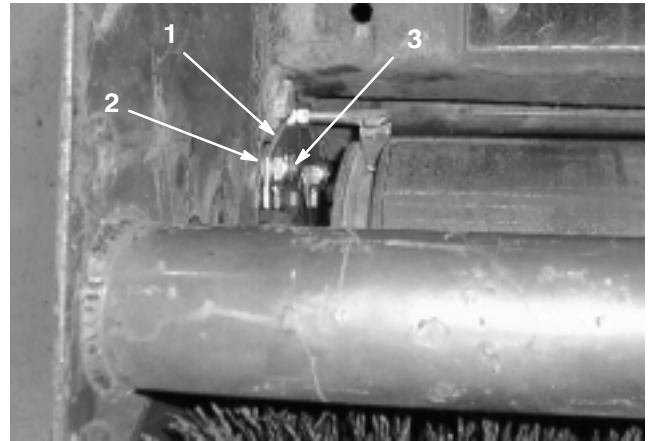

**Figure 7**
7. Using the dimensions in Figure 7, locate, mark, and drill a 3/4" diameter hole through the right side of the frame.